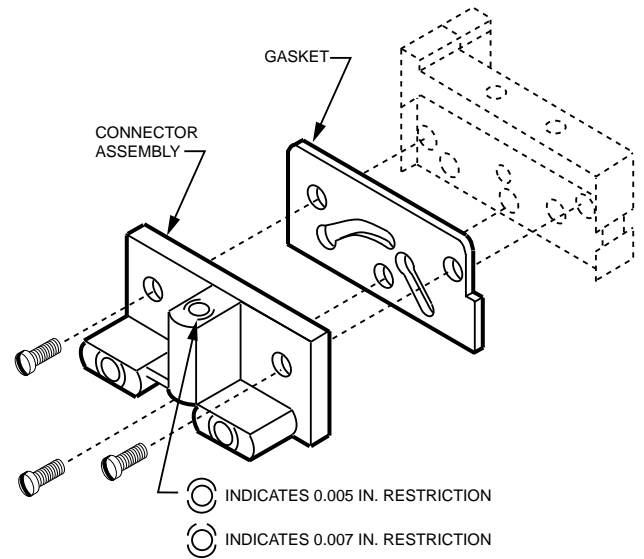

Fig. 8. Repair kit 14003113-002 (0.007 in. restriction included in kit).
The only repair recommended for the LP916 is the replacement of the plate and tube assembly, gaskets, restriction plate, and filters with connector assembly and gasket. Since February 1984, models have a different connector assembly with a single gasket, these are included in Repair Kit 14003113-002, as shown in Figure 8. All available parts are listed in the PARTS AND ACCESSORIES section.
- 2 Remove and save the three No. 8-32 x 7/16-in. pan head screws from the connector assembly (Fig. 8) or plate and tube assembly (Fig. 9 or 10).